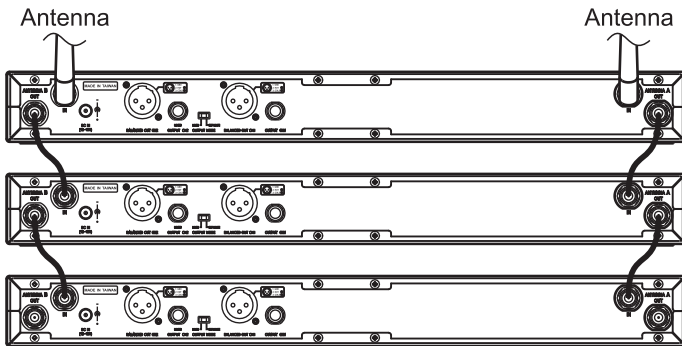

Fig. 5
- (B) TNC connector for daisy chain output ⑫ can be daisy-chained up to three receivers (one master receiver plus two daisy-chained receivers) one by one for optimal reception quality. Fig. 5